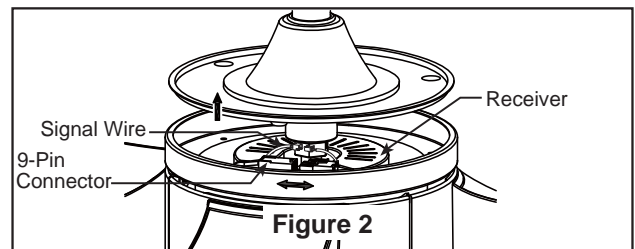

Figure 2
2. Unplug signal wire and 9-pin connector than replace new receiver. (Figure 2)